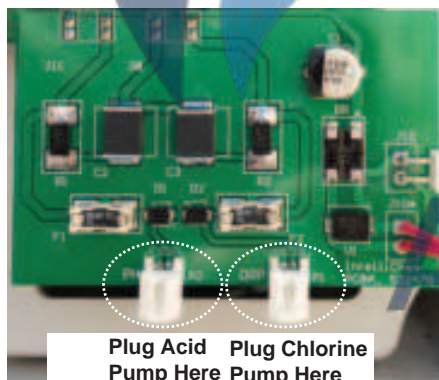

Figure 2. pH and ORP Connection
2. Plug the power cord for the Acid pump into the left connector labeled "PH" on the 522478 daughter board. See Figure 2.
3. (Optionally) plug the power cord for the Chlorine pump into the right connector labeled "ORP" on the 522478 daughter board. See Figure 2.